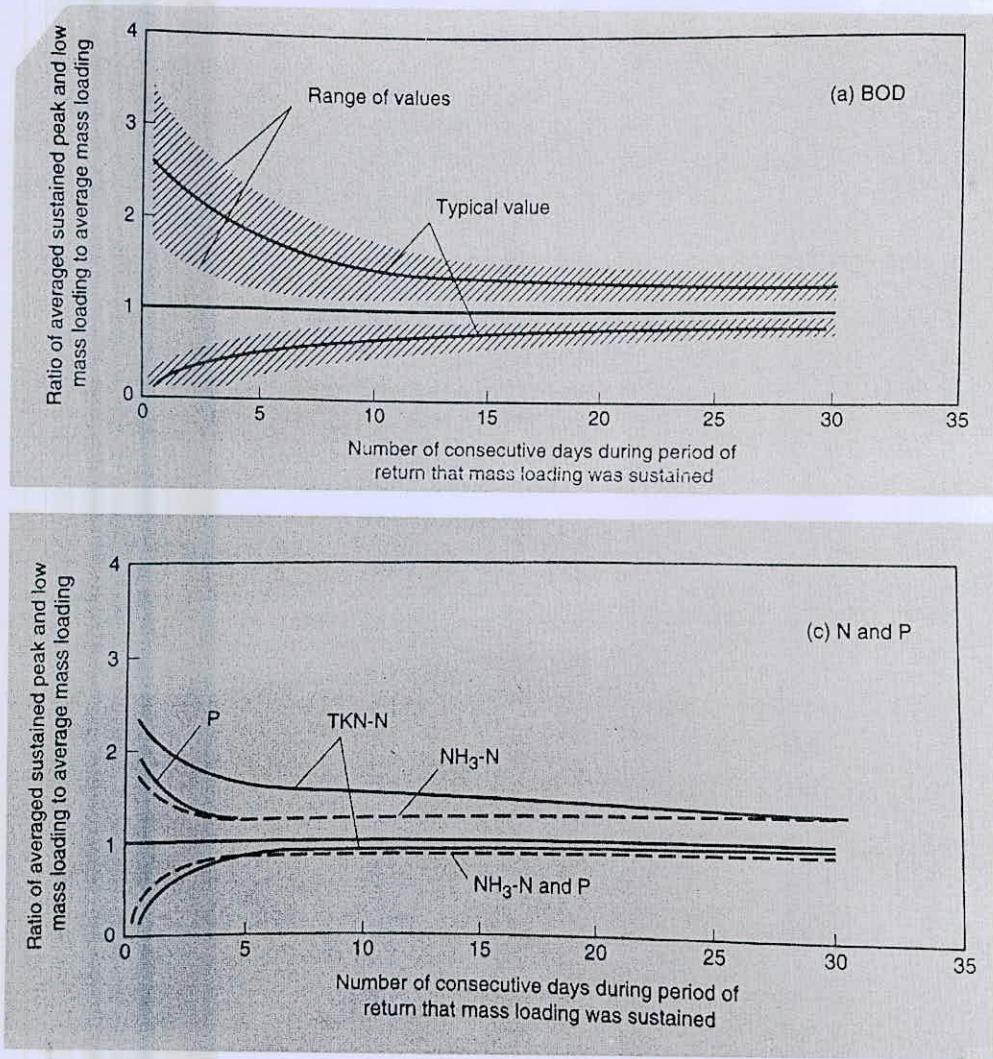

Figure 1: For Question 5 (a)
5. (a) A WWTP employing biological treatment has been designed for a long-term average inflow of $300 \text{ g/m}^3 \text{ BOD}_5$ and $20 \text{ g/m}^3 \text{ P}$. Given the average flow rate of $2 \text{ m}^3/\text{s}$, draw the sustained peak mass loading curves for BOD_5 and low-flow loading curves for $\text{NH}_3\text{-N}$ using the typical curves provided in **Figure 1**. Briefly explain the need for such sustained low-flow curves in the operation of a WWTP. Briefly explain the need for such sustained peak mass loading and low-flow loading curves in the operation of this WWTP. (26 $\frac{2}{3}$)
Figure 1 for Question 1(d)